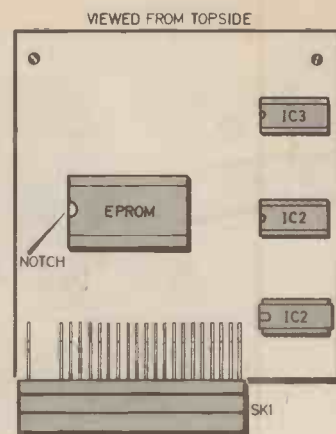

Fig. 8. The EPROM must be inserted in its socket as shown above, otherwise it will be permanently damaged.
10. Refer to Fig. 8. Insert a 2716 EPROM into the 24-pin socket. Take care not to bend the legs of the EPROM (the legs can bend in on themselves as well as splaying out) and be especially careful to put the EPROM in the right way round.